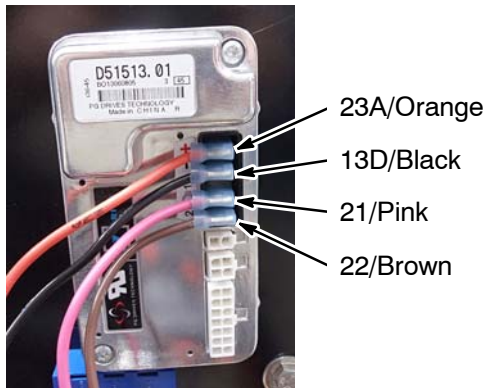

Fig. 4
5. Reconnect the existing harness wires to the new drive module as shown (Figure 4).